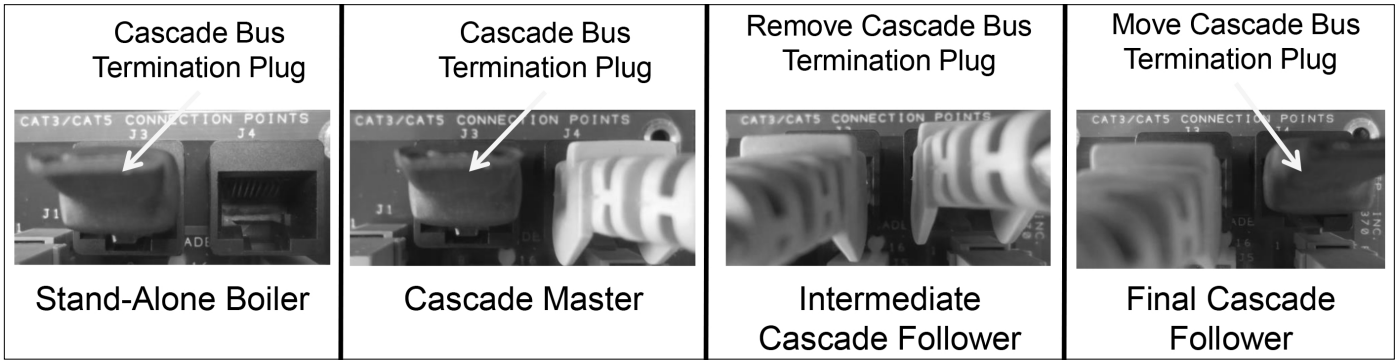

Figure 32 - Cascade Termination Plug Detail
1. All high voltage cables should enter the boiler through the provided knock out holes as shown in Figure 32.
1. All low voltage cables should enter the electrical junction box through the provided knock out holes as shown in Figure 32.